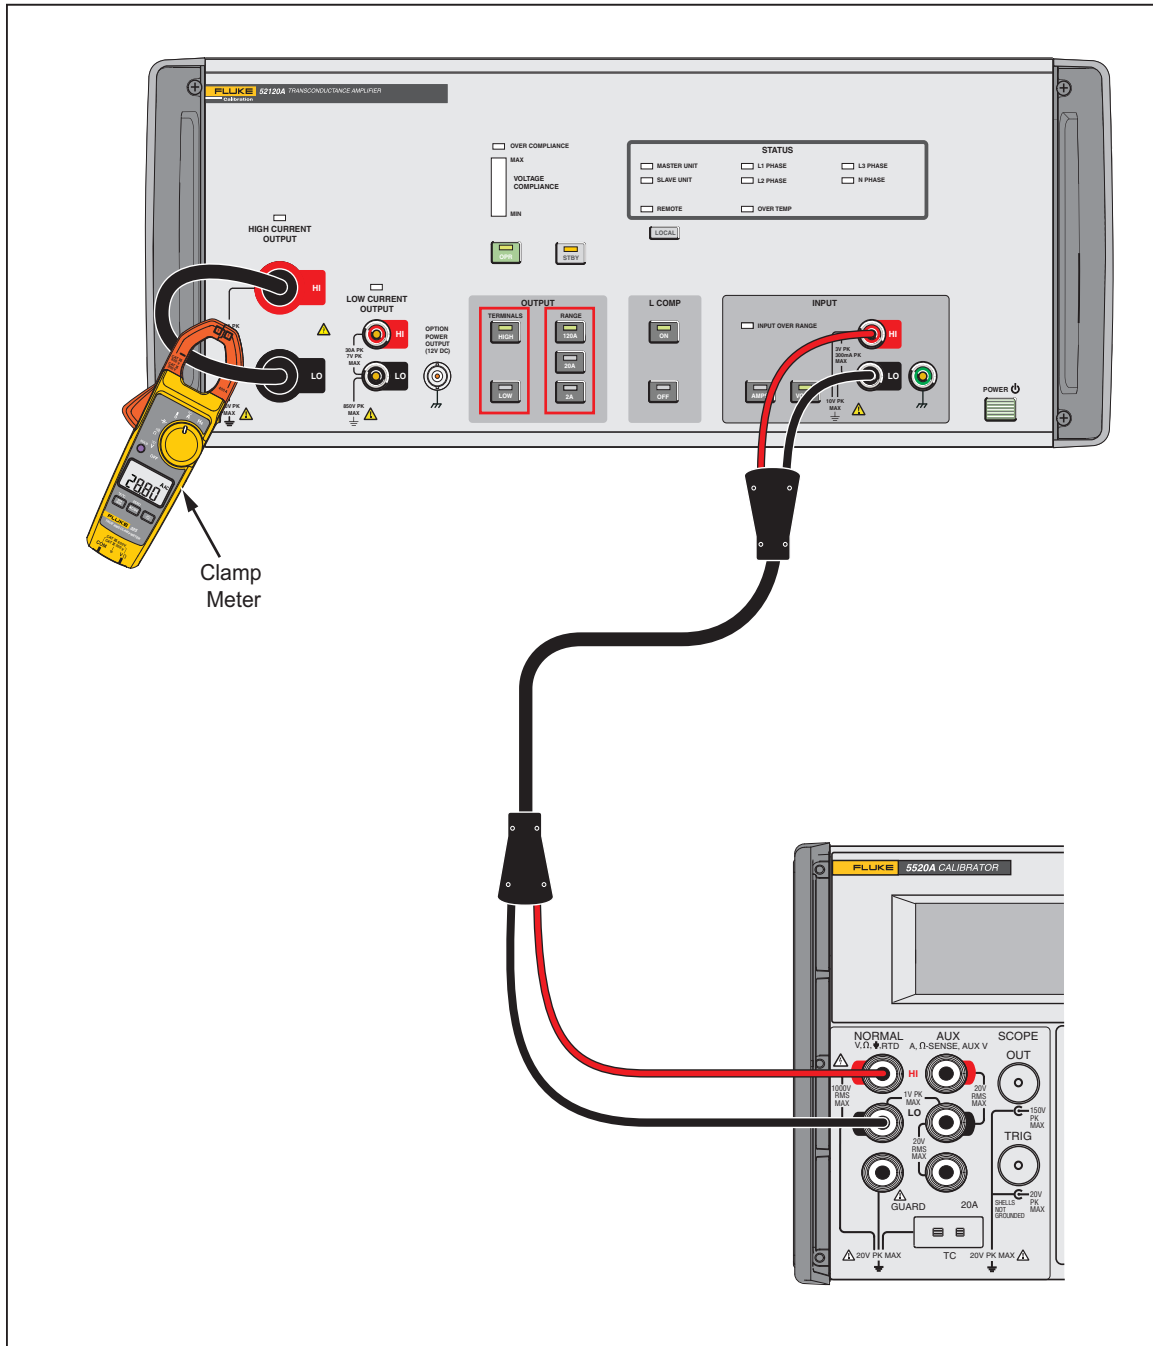

Figure 2-4. 5520A and 52120A Connections
1. Connect the output of a voltage source, a Fluke 5520A in our example, to the input of the Product. See Figure 2-4.